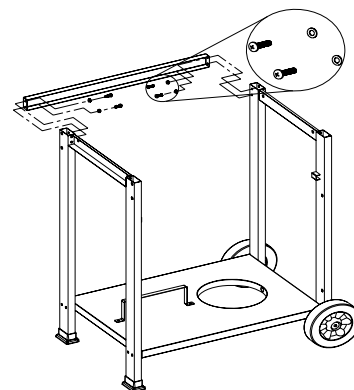

Figure 4
4. Assemble rear cart frame beam to left/right cart legs using (4) 5/32 x 2/5" Phillips head screws with (4) 5/32" lock washers. (Fig.4)